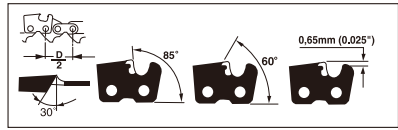
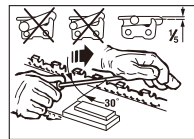

Fig. 21
Fig. 22
**CHAIN SHARPENING** - The pitch of the chain (Fig. 21) is 3/8" LoPro x .050". Sharpen the chain using protective gloves and a round file of  $\varnothing 5/32''$  (4mm).
Always sharpen the cutters only with outward strokes (Fig. 22) observing the values given in Fig. 21.